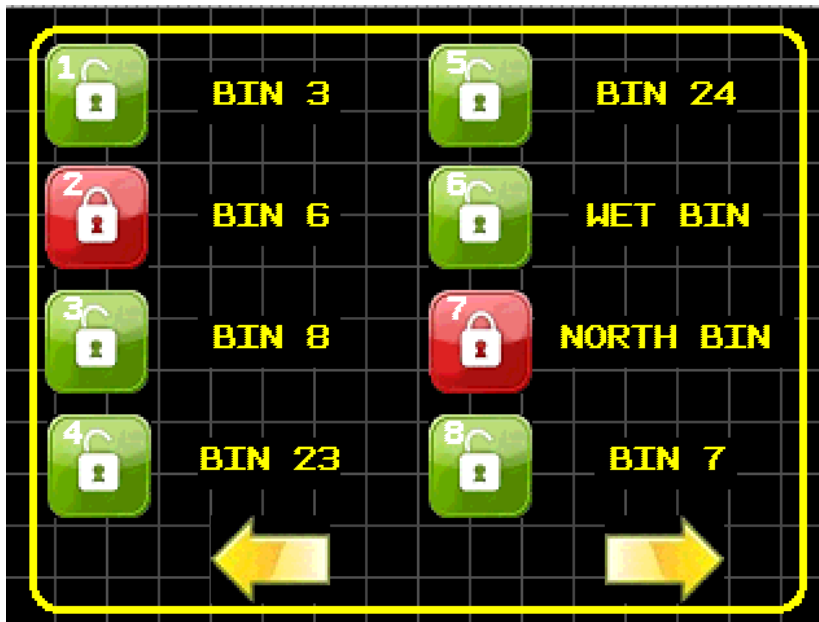

Figure 3.5
- View the unlock screen (Figure 3.5).